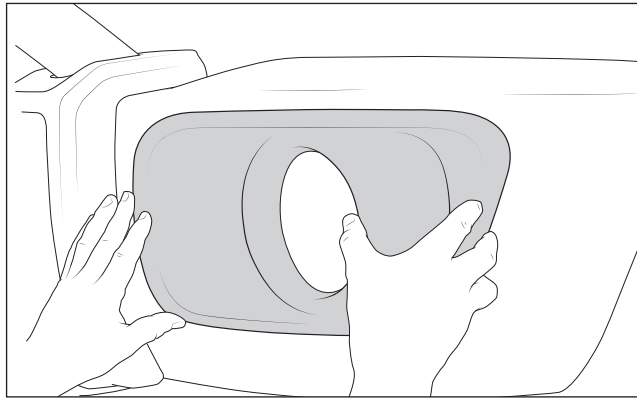

Figure 40
2. Carefully position the bezels on the bumper and press firmly. Use several strips of painter's tape to hold the bezel in place until the RTV cures (fig. 40).